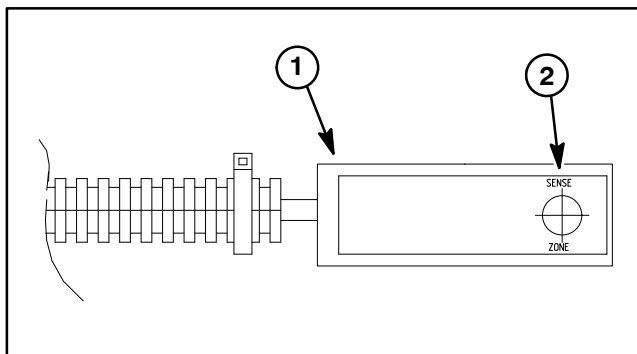

Figure 38
**NOTE:** When installing the parking brake switch to the brake pedal, place switch plate tab into switch mounting hole that is closest to target end of switch (Fig. 38).